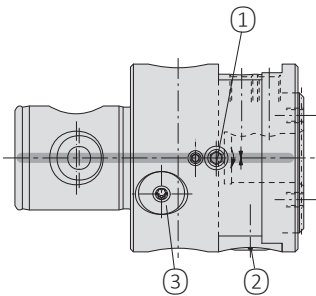

Fig. 10
Clamping (Fig. 10)
Diameter adjustment (Fig. 10)
Comply with the following sequence when adjusting the diameter (Fig. 10):
Battery changing (Fig. 10)
VARTA V392 SR 41 Silver oxide / Zinc / KOH-Electrolyte. Only these batteries have been tested in relation to the high centrifugal forces involved. To change the batteries, open the battery compartment ③ (Figure 10). Use a Torx T 20 service key to open the unit, remove the old batteries and dispose of them correctly. Close the battery compartment again carefully.